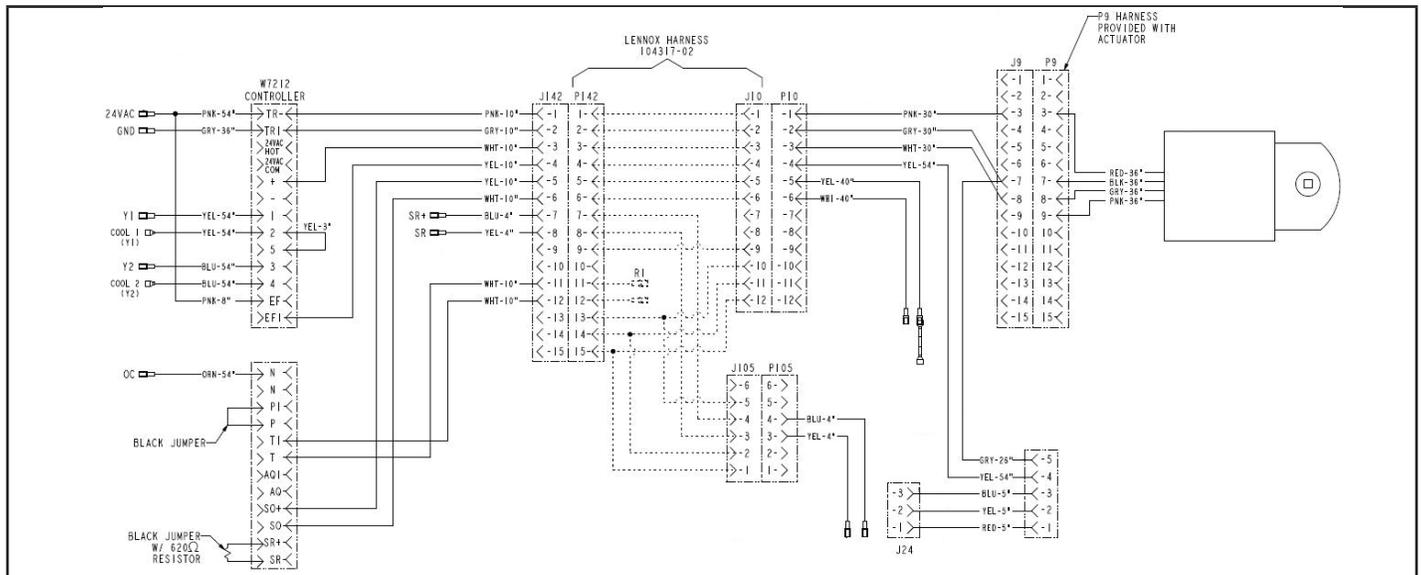

FIGURE 30
- 4 - At economizer/filter compartment, attach economizer plug(P10) to pre-wired harness jack (J10). See FIGURE 30.
- 5 - Connect any optional sensors as shown in FIGURE 30.
- 6 - If optional power exhaust is used, wire according to instructions provided with power exhaust. See FIGURE 30.